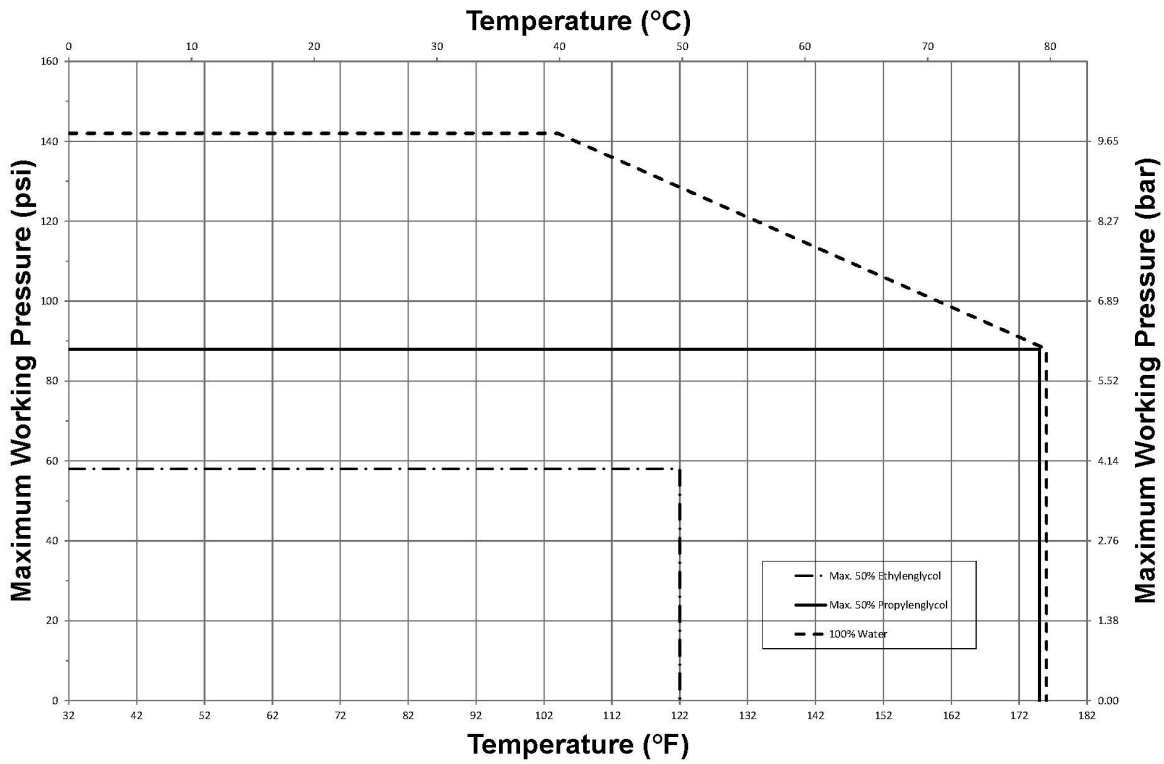

Fig. 2: Manifold temperature and pressure capabilities
- Propylene glycol and ethylene-based glycols at maximum 50% concentration are recommended within temperature pressure ratings shown in Fig. 2 in case freeze protection of the system is necessary. Alcohol-based glycols are not permitted because they can lead to system failure.
Maximum operating temperature range for 100% water (for other glycol solutions see Fig.2)	180°F (82.2°C) @ 87 psi (6 bar) see Fig.2
Minimum operating temperature	14°F (-10°C) @ 145 psi (10 bar) see Fig.2